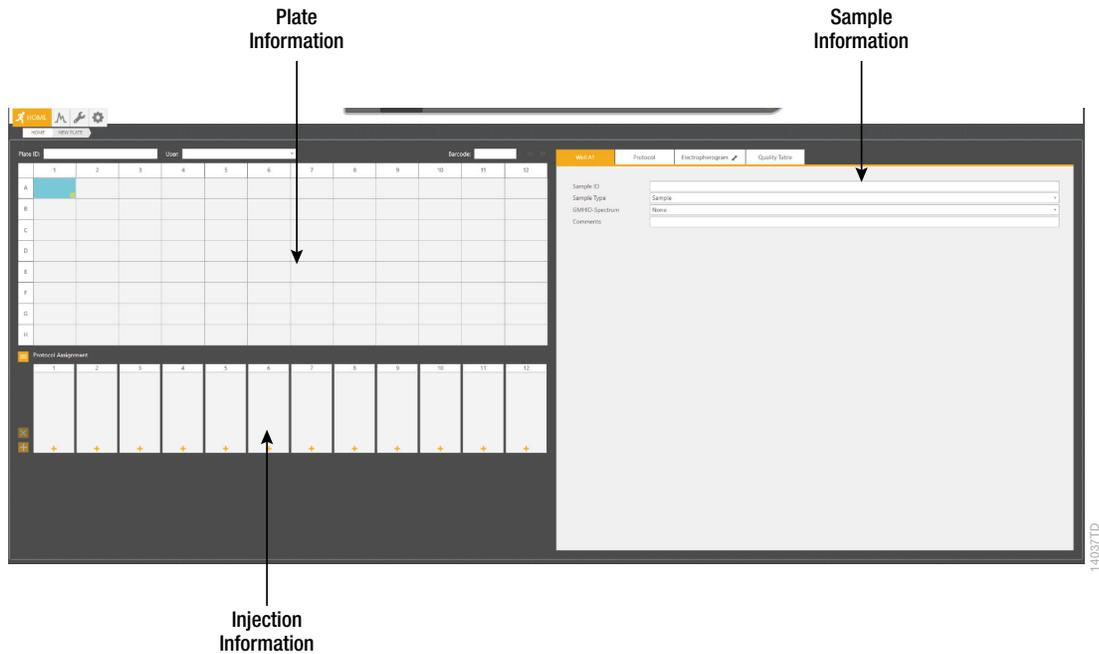

Figure 8. 'Plate' screen.
1. Select **New Plate** from the 'Home' screen. This will open a blank 'Plate' screen that is divided into three sections: Plate Information, Sample Information and Injection Information (Figure 8).
Alternatively, enter Sample IDs in the 'Sample ID' field of the Sample Information section (Figure 8).